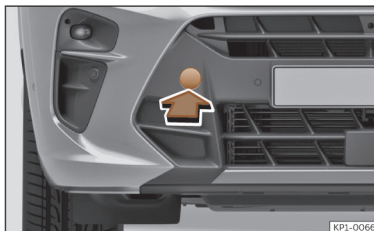

Fig. 213 Front bumper on right: remove the lid.
The housing of the removable towing eye is on the right side of the front bumper underneath a cover >>> **Fig. 213**.
- Remove the cover by pressing down on its base and leave it hanging from the vehicle >>> **Fig. 213**.